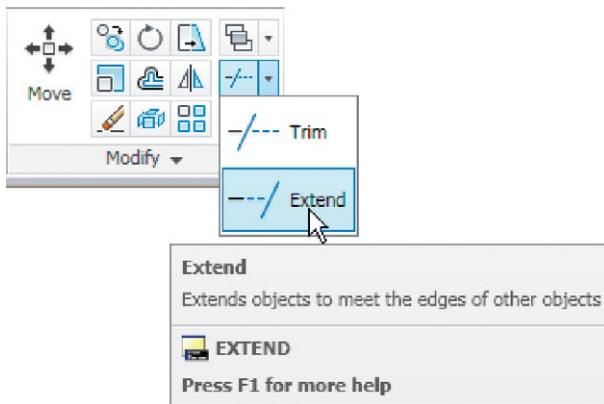

Fig. 5.39 The Extend tool icon from the Home/Modify panel
2. Call **Extend** – either *click* the **Extend** tool icon in the **Home/Modify** panel (Fig. 5.39), *pick Extend* from the **Modify** drop-down menu or *enter ex* or **extend** at the command line which then shows: